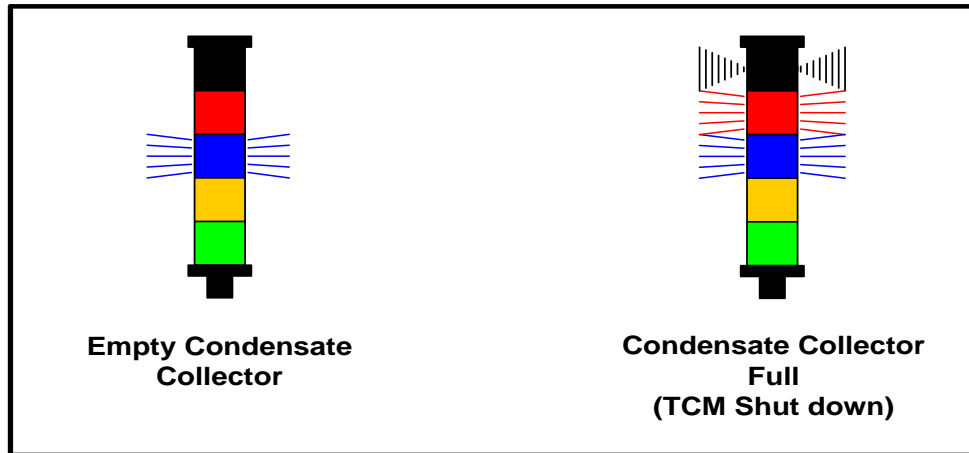

FIG 16
On reaching the desired target temperature, press key 'P'. The display will return to normal showing current printer temperature (**PV**) and new target temperature (**SV**). (FIG 16)
- During TCU operation condensate will be produced by the Air Conditioning Unit (ACU). Condensate will be collected in the Condensate Container. The beacon will indicate the state of the Condensate Container. Failure to empty the Condensate Container will result in automatic TCU shutdown to prevent further condensate being produced (FIG 16).